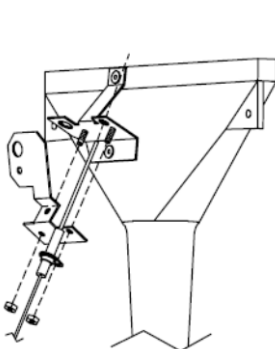

Figure 1
3. Reference Figure 1, if heater is 120,000 BTU or larger. Before installing replacement bracket, remove # 8-32 kep lock nut and the flame probe from the existing bracket. Attach the replacement bracket and replace the flame probe to the existing bracket. Secure them in place using the # 8-32 kep lock nuts.